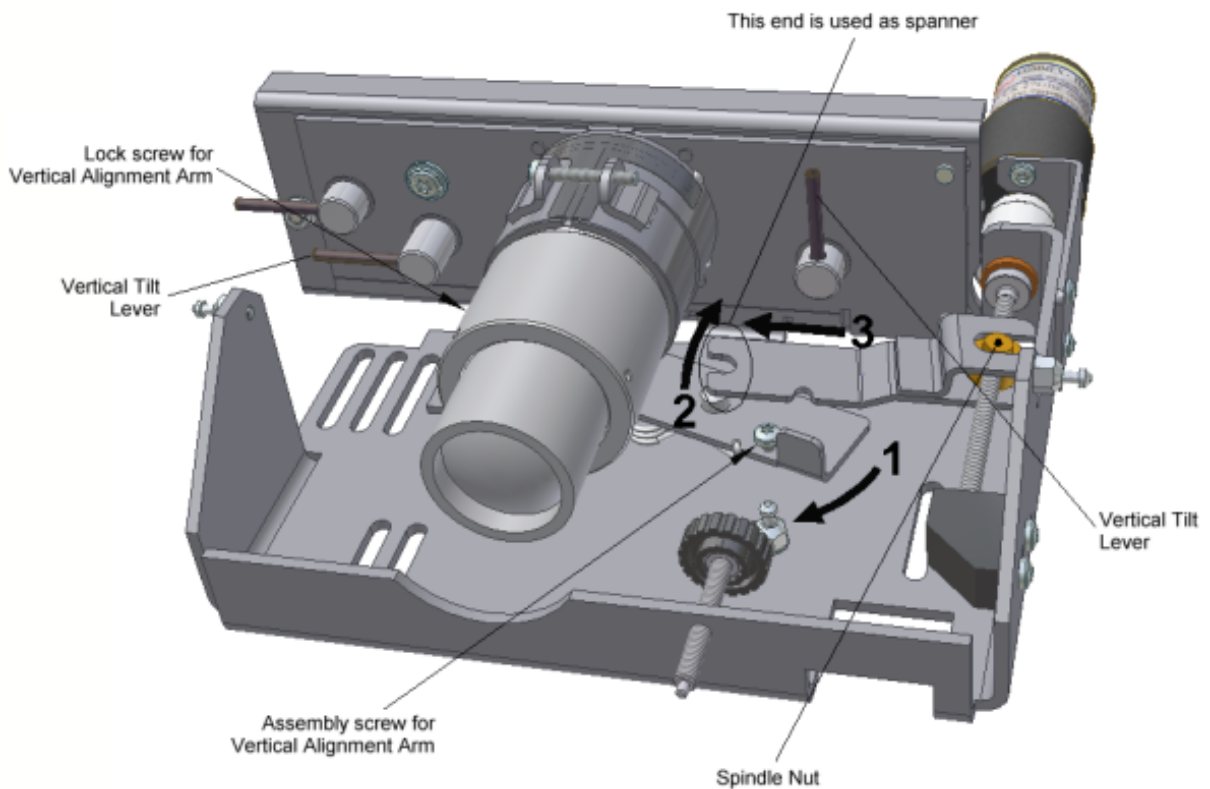

Fig. 4-3, CCD Camera (all except KL67E)
Refer to Fig. 4-3 page 62.
The vertical position is adjusted by turning the Vertical Adjustment Screw (located under the camera housing) which tilts the camera. The screw must be turned using a special spanner and as it can be seen in Fig. 4-3 page 62 the spanner is the one end of the upper half of the Vertical Alignment Arm. However, even when the Vertical Alignment Arm is not fixed to the Vertical Adjustment Screw the camera tilt will change slightly when turning the Vertical Alignment Arm. Because of this the Vertical Alignment Arm has to be installed and set to its initial position when adjusting the vertical position of the camera. As this rules out using the upper half of the Vertical Alignment Arm of the camera which is adjusted, this part is attached to the spindle console of the fixed camera (camera B). The sole purpose of this part is to be used when adjusting the camera tilt.
- Loosen the fixing screw and remove the arm. The end opposite to the spindle end is now used as a spanner for adjusting the Vertical Position, see Fig. 4-3 page 62.